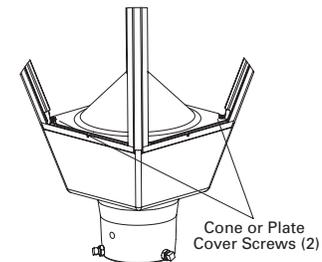

FIG. 2
1. Unscrew two screws from cover plate or cone located at fixture base. (FIG. 2) Remove plate or cone cover to gain access to the wiring compartment.
4. Unscrew two screws from cover plate at fixture base. (FIG. 2) Remove plate cover to gain access to the wiring compartment.